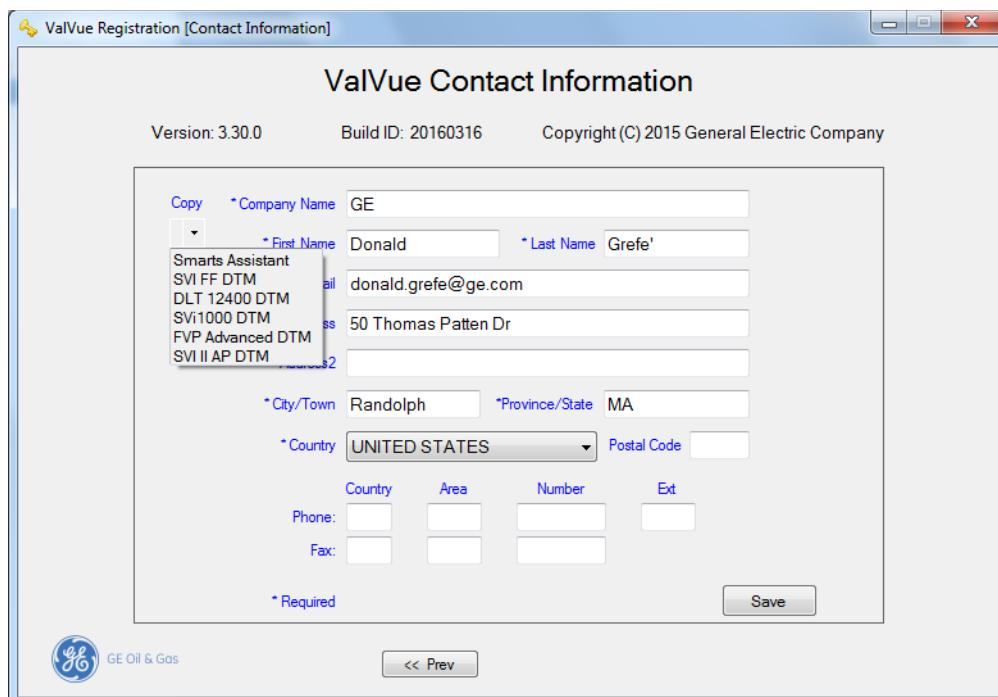

Figure 3 Contact Information
2. Click  or click **Next** and Figure 3 appears.